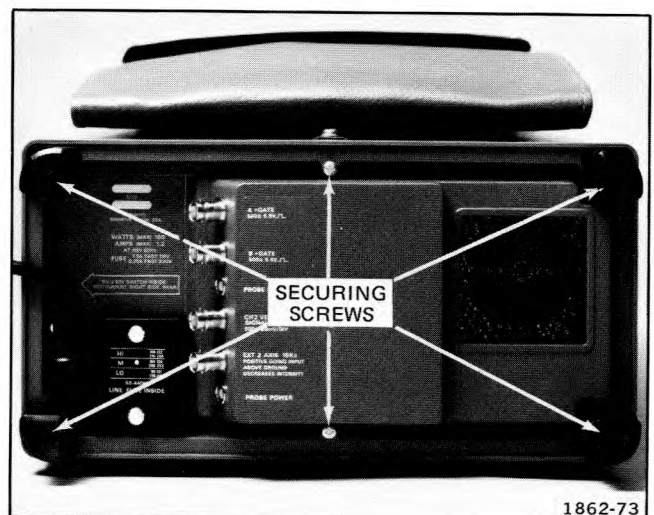

Fig. 4-1. Typical rear cabinet frame removal.
4. Completely loosen the six screws indicated in Fig. 4-1 and remove the rear cabinet frame (with feet and screws) from the instrument as an intact assembly.